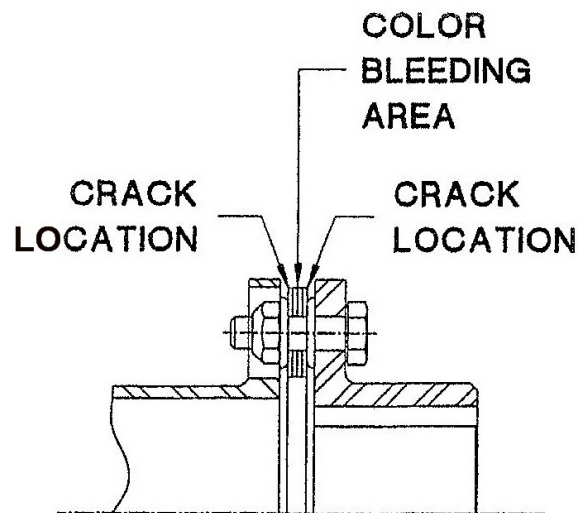

Figure 1 Fatigue failure due to excessive misalignment.
1. Reddish brown color bleeding out between disk laminations at the outside diameter (OD) of the disk pack. This indicates fretting corrosion due to loose bolts or chemical attack. See Figure 1.
2. Fine line crack starting in the outer disk tangent to the washer (OD). This indicates a fatigue failure due to excessive misalignment. See Figure 1.